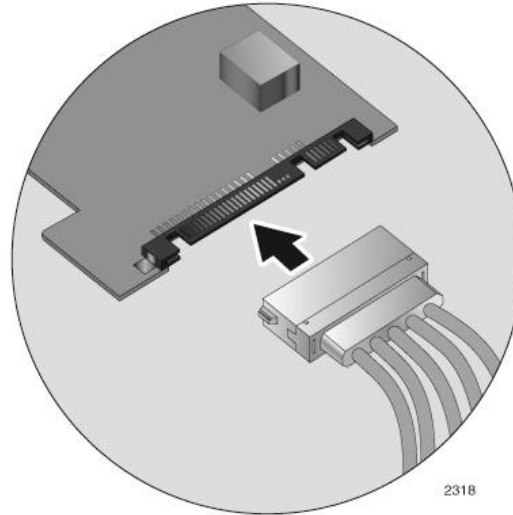

Figure 7. Installing System PS SATA Harness connector to AT-2716POE
7. Depending upon model order connect an appropriate unused power connector from the system power supply harness to the AT-2716POE SATA or IDE power connector receptacle as shown in Figure 7.